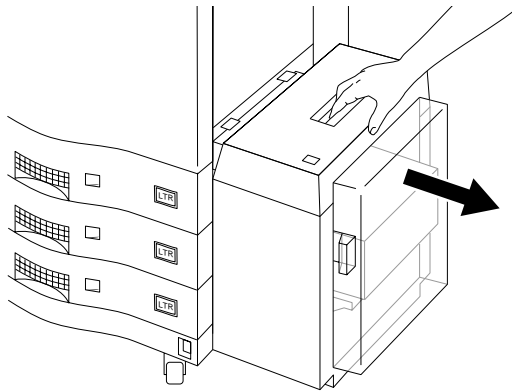

Figure 4-55 Sliding HCI away from printer
1. Release the HCI from the printer and slide the HCI back on its rails, as shown in Figure 4-55.